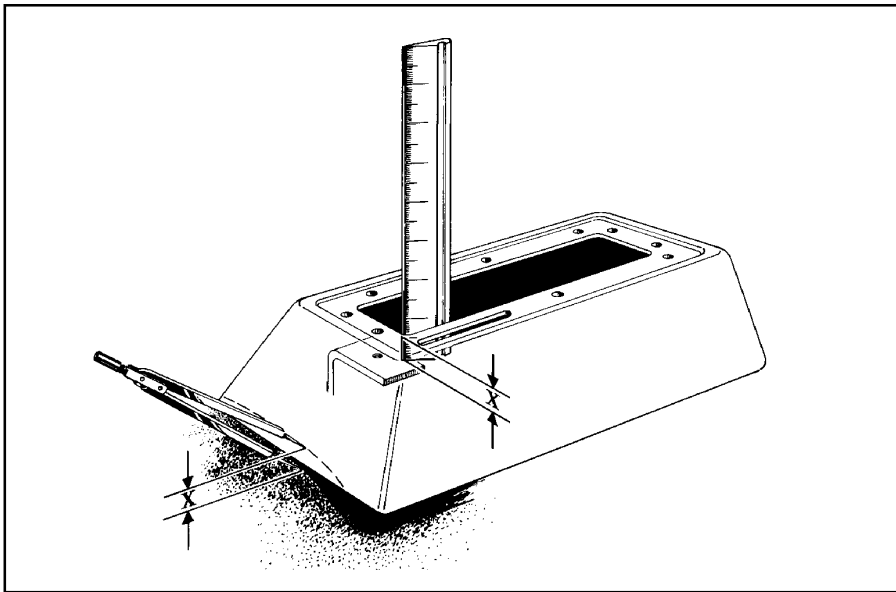

Figure 7
**STEP 25.** Place the black tower over shifter mechanism until the bottom edge of the tower touches the floor. Hold the tower level to the shifter with the bottom of the tower touching the highest surface on the floor it will come into contact with (See Figure 7). Use a ruler to measure the distance X from the underside of the tower to the tower mounting brackets on the shifter mechanism.
(See Figure 7). Using the dividers, scribe a line around the tower that follows the contour of the floorboard. Remove the tower and trim at the scribe line using tin snips.